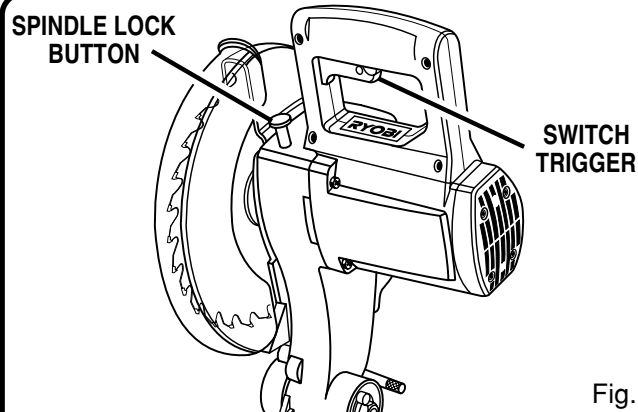

Fig. 10
- Depress the spindle lock button and rotate the blade bolt until the spindle locks. See Figure 10.